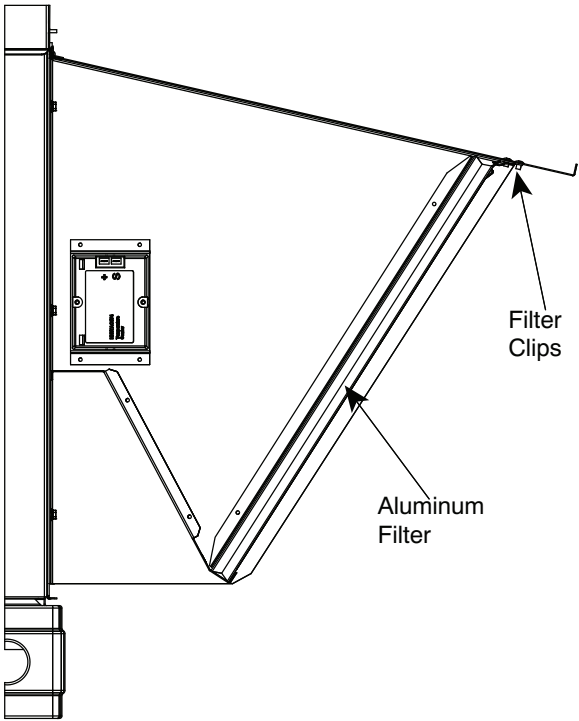

Fig. 36 - Filter Installation (See through view)
11. Open the filter clips on the inside of the hood top. Insert the aluminum filter into the hood and close the clips to hold in place. See Fig. 36.